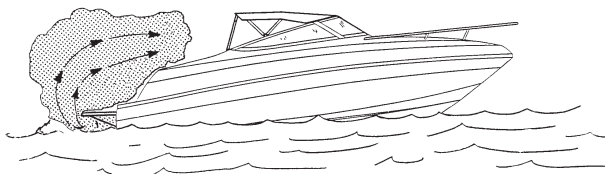

Figure A13: Exhaust Gas Accumulation at Swim Platform
3. Do not swim in the vicinity of the exhaust outlet. Refer to Figure A13.